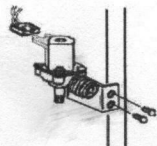

Figure 4
6. Unplug valve and remove mounting screws. (See Figure 4)